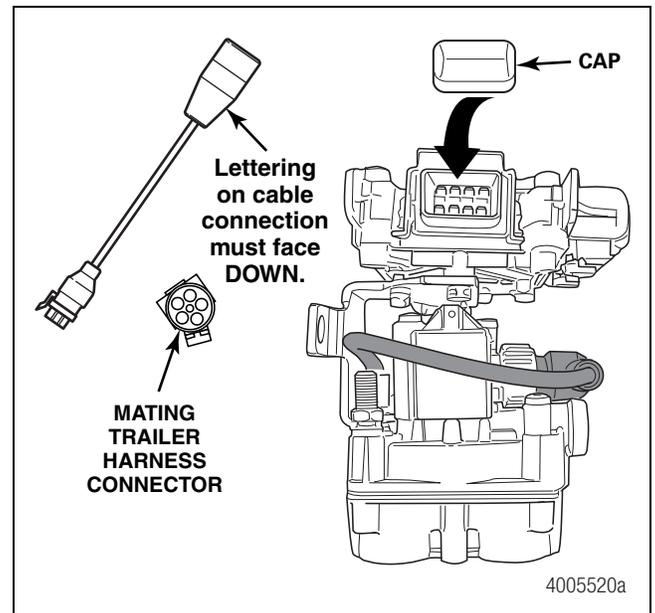

Figure 9
4. Push the hinged power connector retaining clip UP and remove the protective cap from the ECU/single modulator valve assembly. Figure 9.
- **For industry-standard connector cables:** Attach the power cable’s round Weather Pack connector to the ABS break-out connector on the trailer power harness. Figure 9.